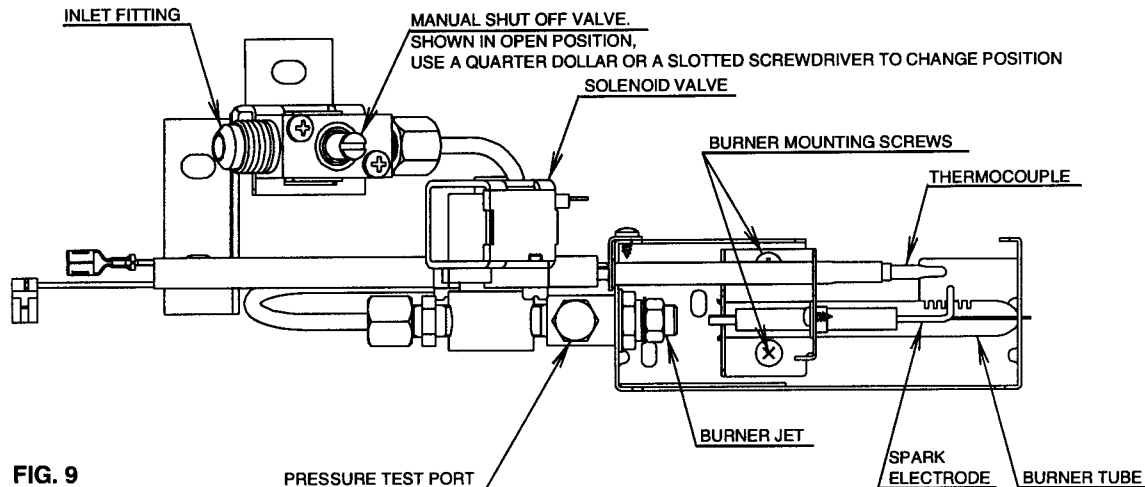

FIG. 9
- D. The LP gas pressure should be checked and the main regulator re-adjusted if pressure is incorrect. The correct operating pressure is 11 inches of water column. The correct place to take the LP gas pressure is at the test port just ahead of the burner jet. (See FIG. 9).
6. Remove the burner mounting screws and remove the burner assembly. (See FIG. 9).